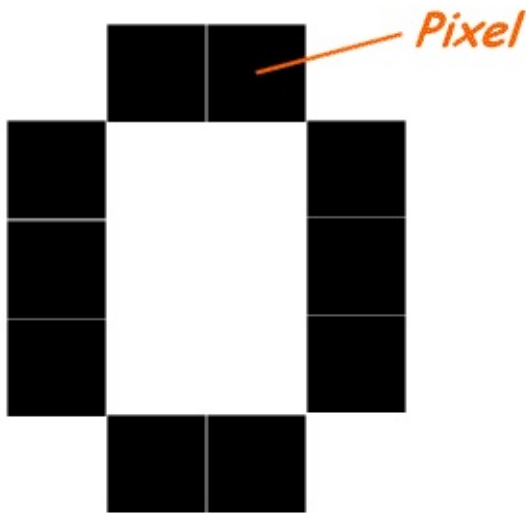

Figure 1-4. Group of pixels representing the image of the letter “O”
- Pixel – A pixel is the smallest unit that makes up a digital image. It is generally a small square illuminated element that can take on various colors. For example, in Figure 1-4 you can see that the number “0” is composed of many pixels represented in the figure by black squares.